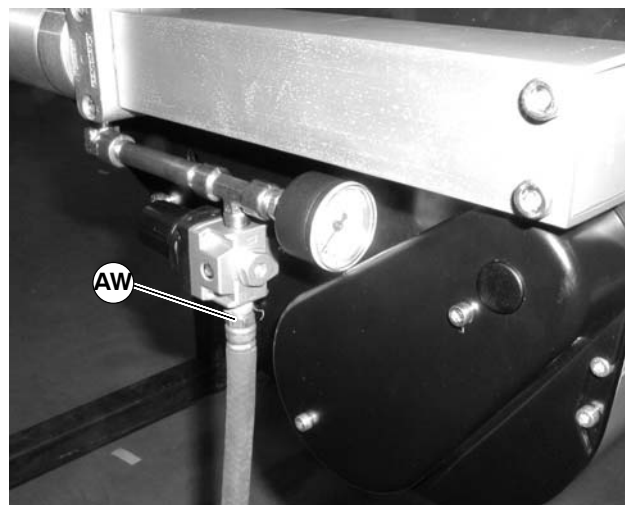

Figure 87
1. Remove air supply and remove hose (AW of Figure 87) from center drive.